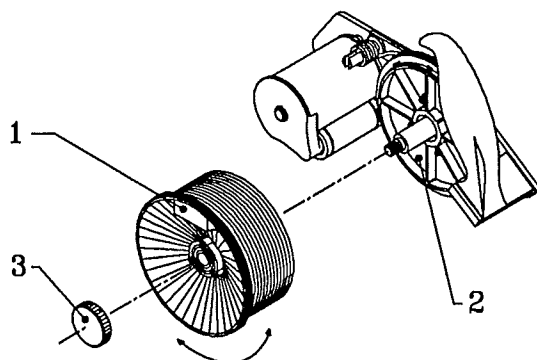

Figure 32 : Positioning the text
7.3.2 Positioning the text on the product (see figure 32)